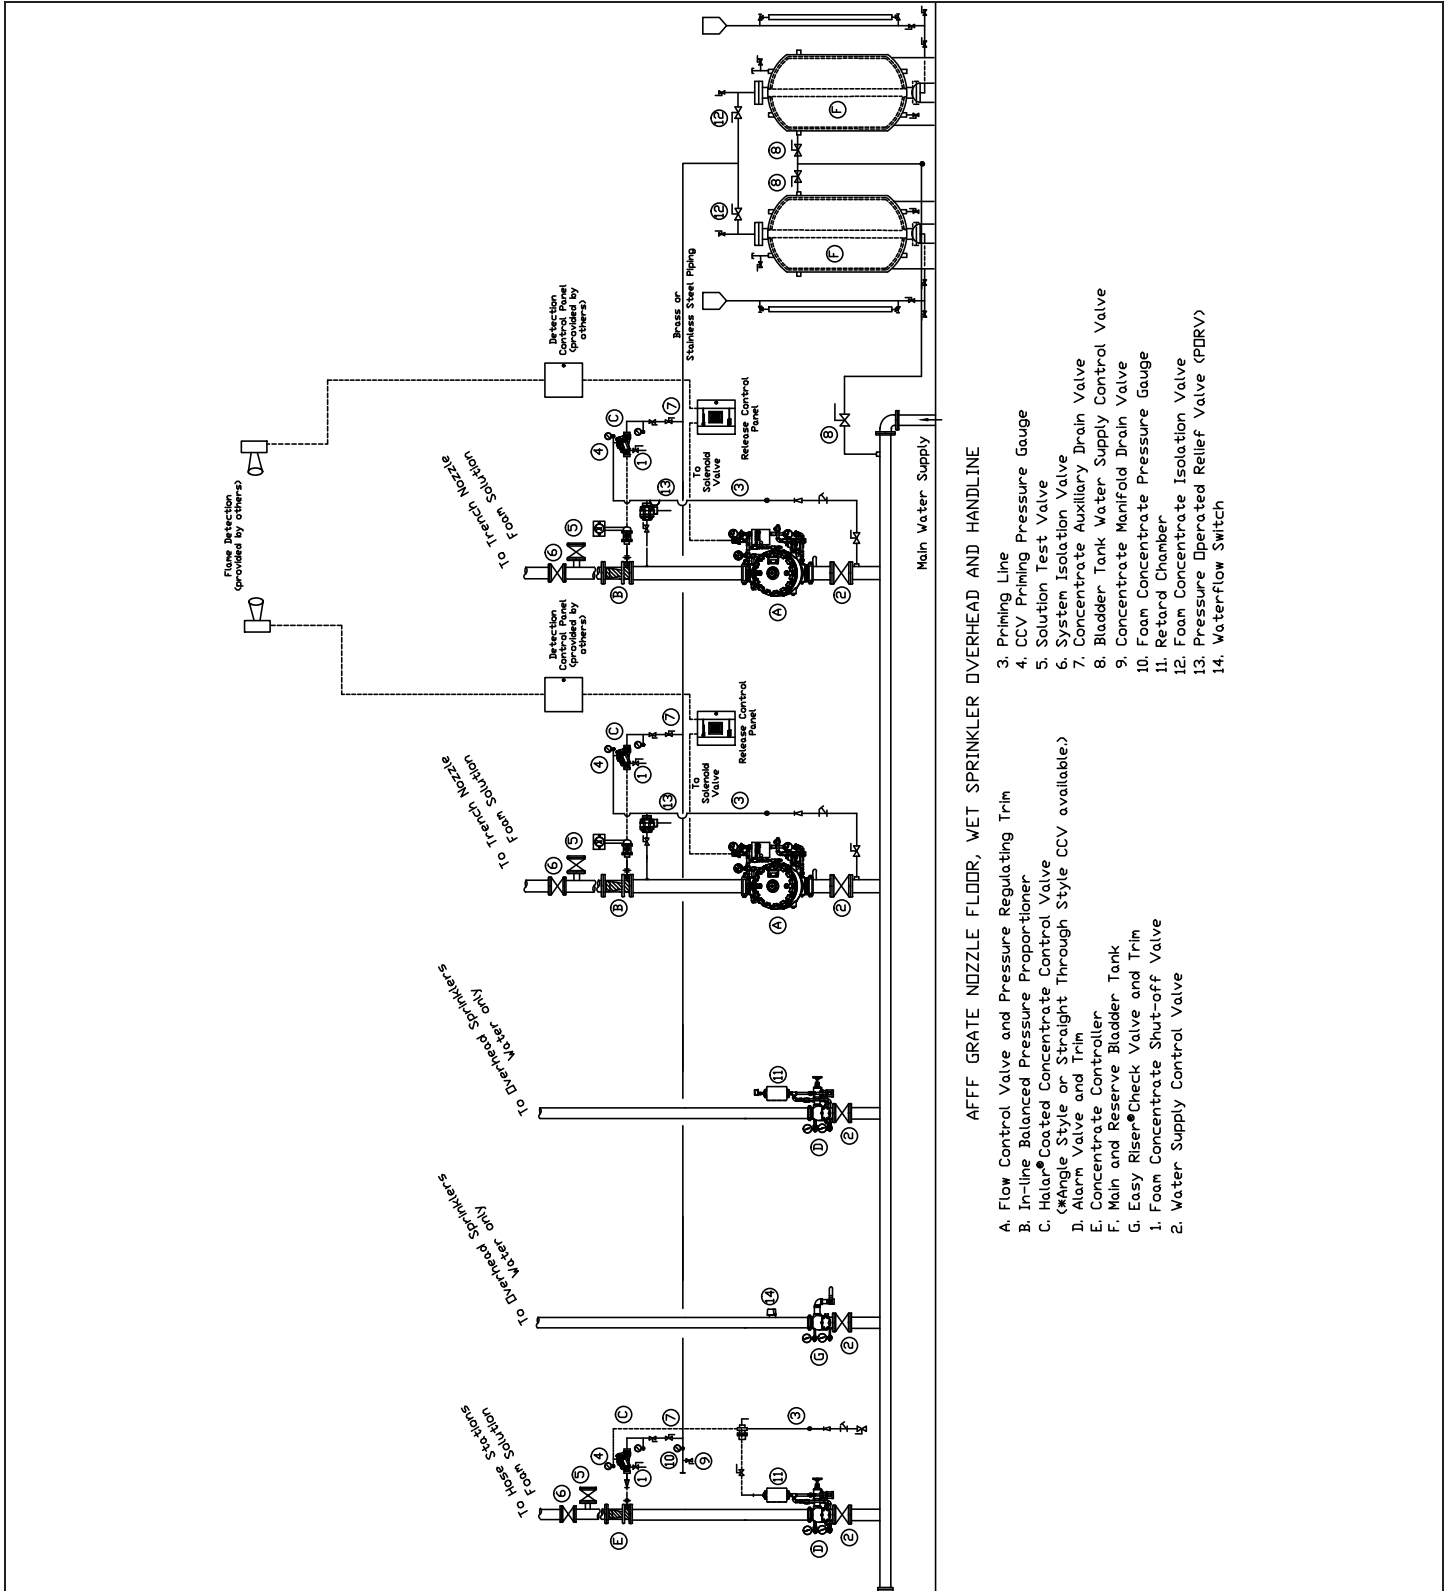

Figure 1
- A. Provide a minimum of 5 pipe diameters of straight pipe on the inlet and outlet of the in-line balanced pressure proportioner (ILBP) (B) to minimize the turbulence inside the ILBP. **WARNING!** If the outlet to the foam solution test valve (5) is located closer than 5 pipe diameters, there may be turbulence at high flow rates.
- B. The release of the Halar® coated concentrate control valve (C) and the flow control valve (A) must NOT be combined. The concentrate control valve must be primed and released separately of the pressure regulating deluge valve to ensure open position of the concentrate control valve clapper.
- C. Figure 1 is a general schematic of the required piping arrangement. Refer to the appropriate technical data page for specific information regarding the valve, tank, and related trim and devices.
- F. The foam concentrate control deluge valve (C) does not require any trim, except for a 1/2" priming line, 1/2" auxiliary drain valve (29), and gauge with 3-way valve. Plug all remaining valve trim outlets. Refer to the "Valves" section of this data book to find the correct trim kit part number for the corresponding size of foam Halar® coated concentrate control valve (C) required.